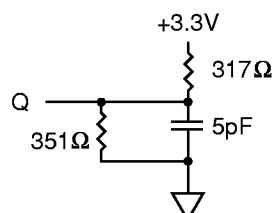
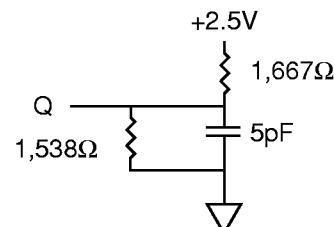

Figure 2
Figure 4
4. The load used for V_{OH} , V_{OL} testing is shown in Figure 4 for 2.5V I/O. AC load current is higher than the shown DC values. AC I/O curves are available upon request.
- This parameter is measured with the output loading shown in Figure 2 for 3.3V I/O and Figure 4 for 2.5V I/O.